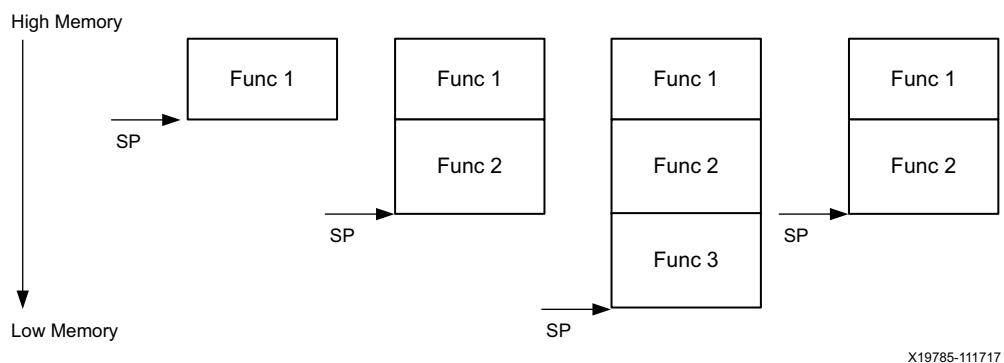

Figure 4-1: Stack Frame
Consider an example where Func1 calls Func2, which in turn calls Func3. The stack representation at different instances is depicted in Figure 4-1. After the call from Func 1 to Func 2, the value of the stack pointer (SP) is decremented. This value of SP is again decremented to accommodate the stack frame for Func3. On return from Func 3 the value of the stack pointer is increased to its original value in the function, Func 2.